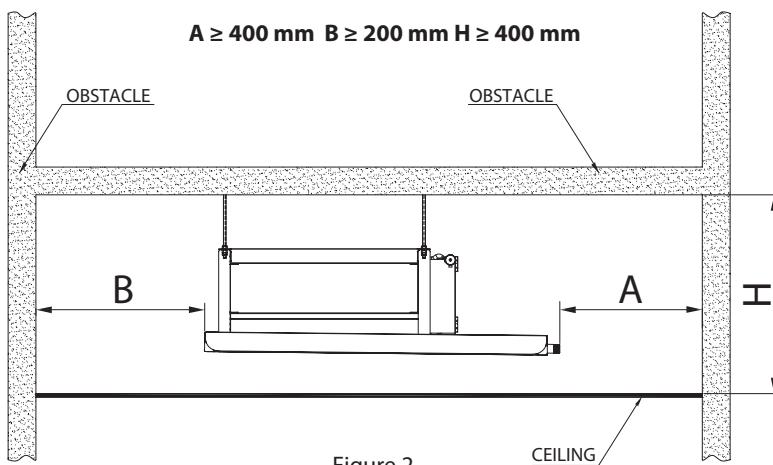

Figure 2
2. Have adequate space for installation and maintenance. Please refer to the unit size and the connection diagram. (Figure 2 : Gaps around the unit shows the required minimum space.)